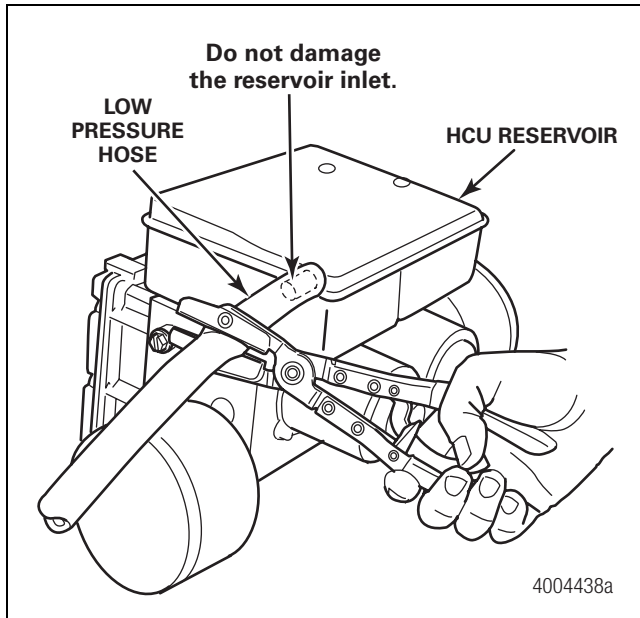

Figure 6
1. Attach a pinch clamp to the low pressure hose near the HCU lower reservoir inlet. Figure 6.